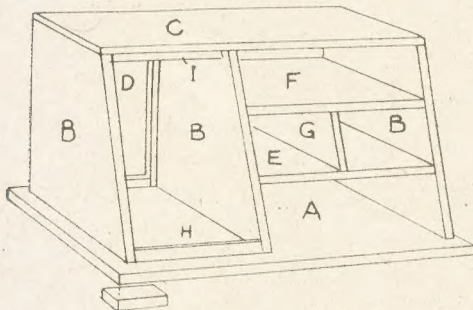
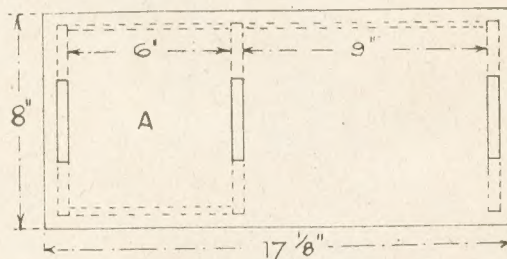
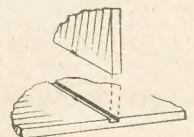

Fig. 2—Showing general construction of framework
Fig. 3—How to mark out the base
Fig. 7—Grooved upright
Or, again, the two pieces (E) and (F) may be shallow-grooved, as seen in Fig. 7, and partition (G) finally slid between the two after they are fixed in place. Small rails (H) and (I) are next prepared from $\frac{1}{4}$ in. by $\frac{3}{8}$ in. stuff 6 ins. long, and glued as seen in Fig. 2.
given in Fig. 2, where (A) is the base which must be squared up accurately from a piece of $\frac{3}{8}$ in. stuff. The sides and mid partition (B) should be tenoned into the base, and the plan, Fig. 3, gives the measurements for setting out the three mortises.